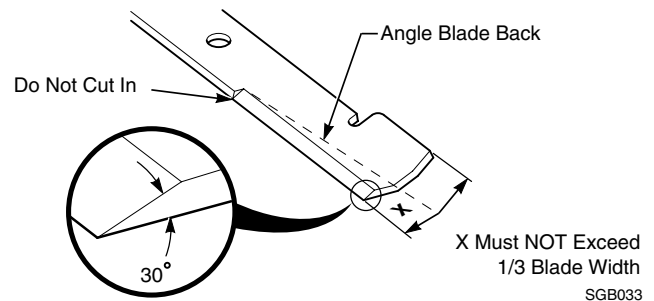

Figure 7-8. Blade Sharpening
width of the blade. See Figure 7-8.
1. Sharpen the cutting edge at the same bevel as the original. See Figure 7-8. Sharpen only the top of the cutting edge to maintain sharpness.